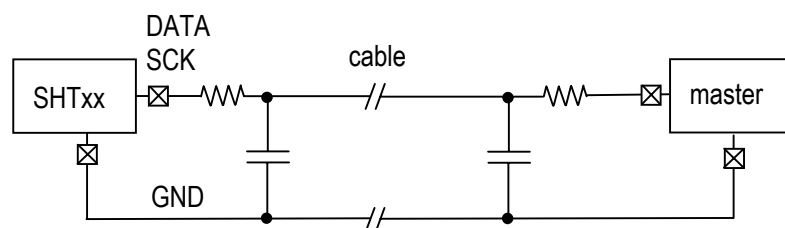

Figure 5 Reducing the slope of SCK or DATA line when using a long cable with the SHTxx device.
3. Reduce transmission frequency and slopes of the signals when using long cables. This is to reduce cross talk sensitivity, reflections and susceptibility against bursts. Slopes can be reduced by inserting a passive low pass filter, shown in Fig. 5. Best results may be achieved when using a low pass filter on either side of the cable connection.